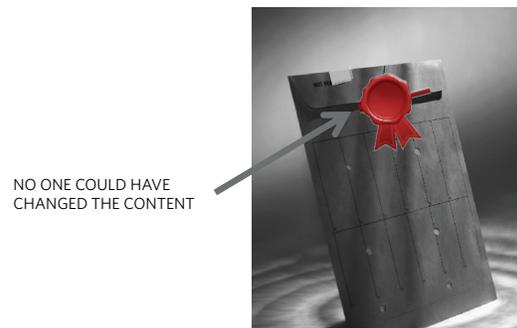

Figure 4. Integrity proves that content has not been modified.
**Integrity:** Proves that data is well formed and has not been altered since it was sent. In our real-world example, we might think about a seal on the letter showing that the letter hasn't been altered (Figure 4). Or for a more modern example, perhaps think about tamper-evident tape rather than wax.